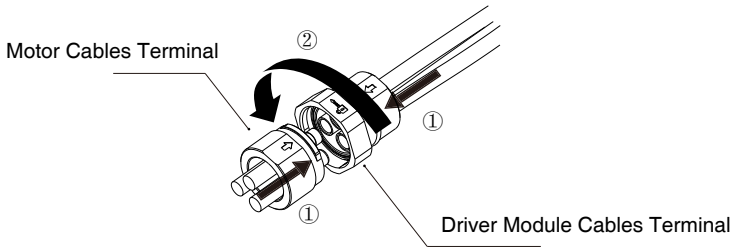

Figure 3-3
**Step 3:** Connect the motor cables terminal with the driver module cables terminal. Align the arrows ① in the terminals first (refer to Figure 3-3) then plug in. After two terminals are properly connected, lock them by the buckle ring following the direction of arrow ② .